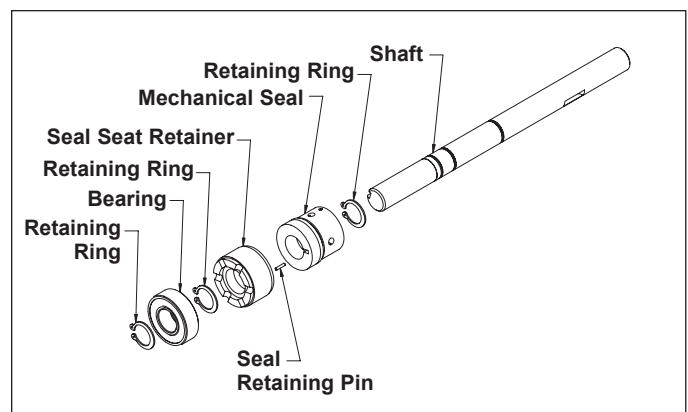

Figure 9 - Shaft, Seal and Bearing Assembly (detailed view)
- c. Refer to assembling components on drive shaft (See Figure 9). When installing the seal on the shaft, wet with water and be cautious when sliding it into position. The spring retaining washer and spring are behind the seal with the carbon ceramic facing towards the keyed end of drive shaft (See Figure 9).